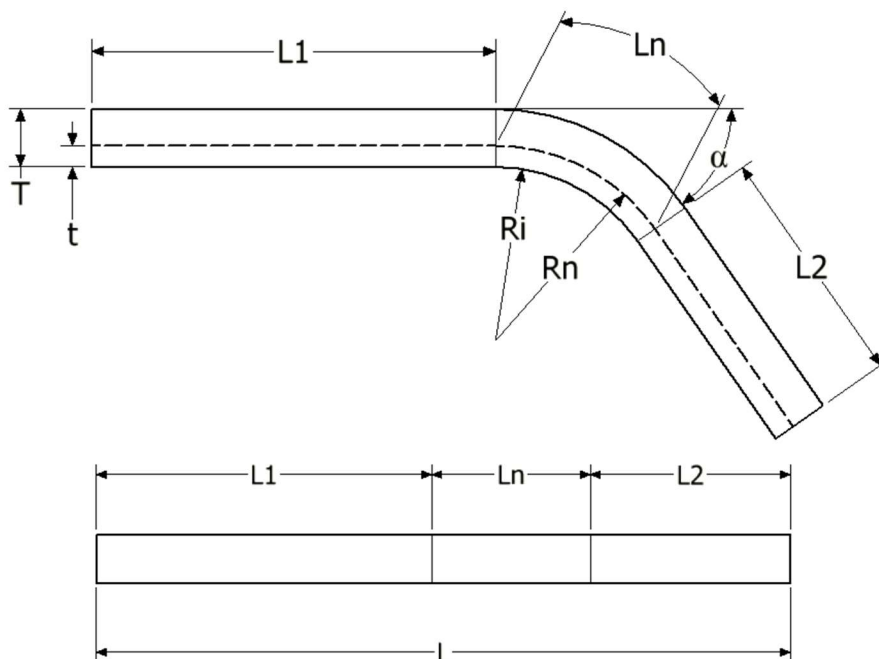

Figure 2 – Bend Allowance Calculations
The goal is to get the total length (L) of a workpiece as shown in Figure 2: